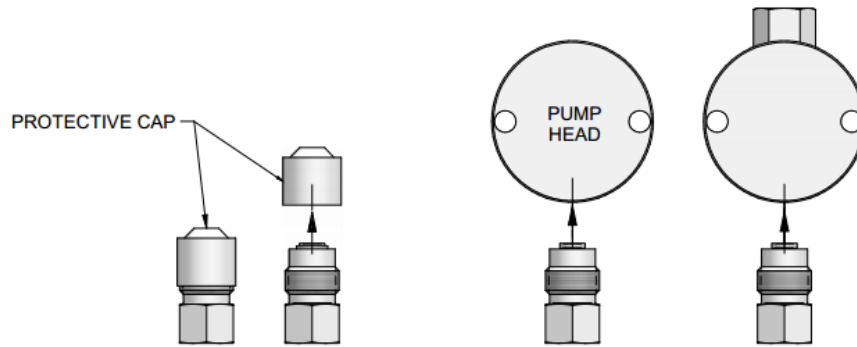

Figure 10, New Check Valves from package and proper orientation.
If this procedure does not return the pump to proper performance, the check valves should be replaced. An example of new check valves from their package can be seen in *Figure 10* below.
3. Hold one new check valve assembly as shown in *Figure 10* and unscrew the protective cap. With the check valve assembly maintained in the above position, thread it into the proper pump head port until it is snug. Install the other check valve assembly similarly.